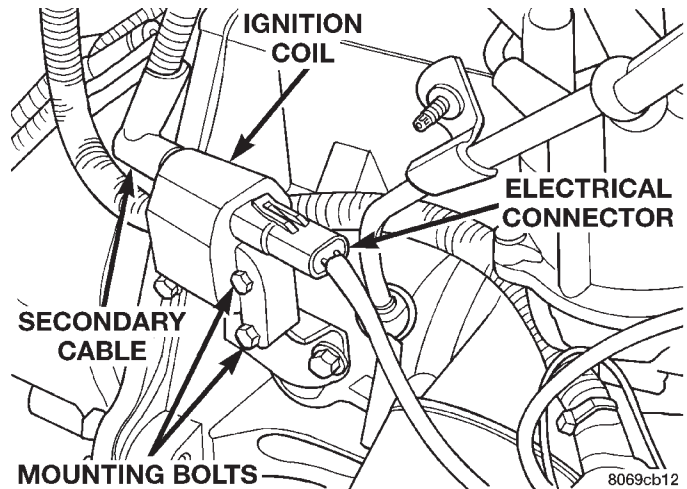
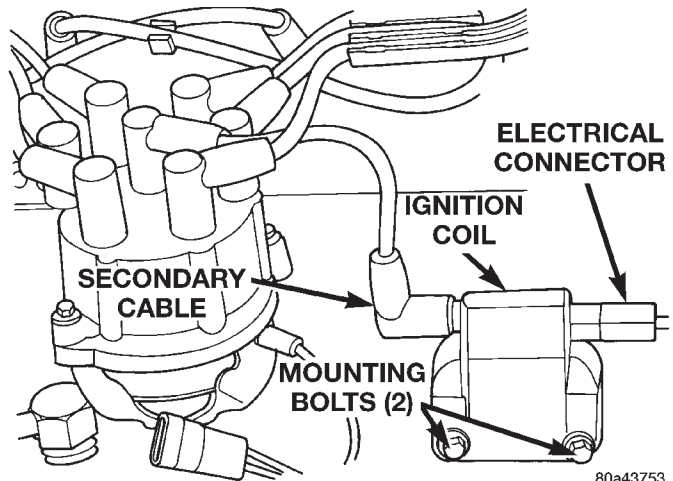
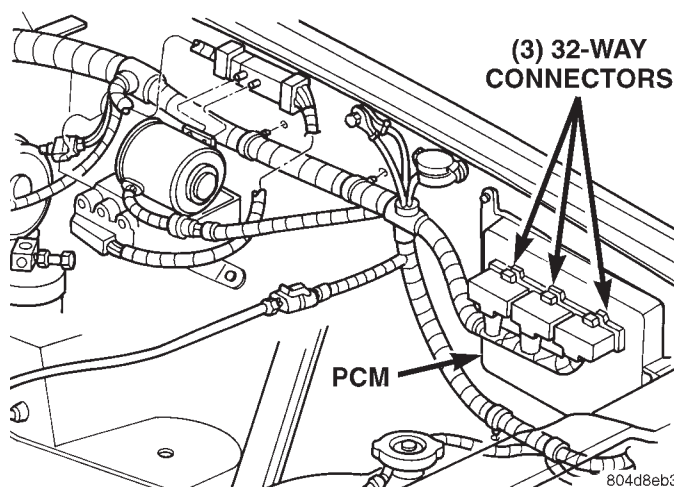

Fig. 8 Ignition Coil—2.5L Engine
Fig. 9 Ignition Coil—4.0L Engine
Fig. 10 PCM and Three 32-Way Connectors
The ignition coil (Fig. 8) or (Fig. 9) is designed to operate without an external ballast resistor.
(1) Unplug the ignition coil harness connector at the coil (Fig. 9).
(2) Connect a set of small jumper wires (18 gauge or smaller) between the disconnected harness terminals and the ignition coil terminals. To determine polarity at connector and coil, refer to the Wiring Diagrams section.
(3) Attach one lead of a voltmeter to the positive (12 volt) jumper wire. Attach the negative side of voltmeter to a good ground.
(4) Determine that sufficient battery voltage (12.4 volts) is present for the starting and ignition systems.
(5) Crank the engine for 5 seconds while monitoring the voltage at the coil positive terminal:
- If voltage remains at or near battery voltage during the entire 5 seconds, turn the key off. Remove the three 32-way connectors (Fig. 10) from the PCM. Check 32-way connectors for any spread terminals or corrosion.
(6) Remove test lead from the coil positive terminal. Connect an 18 gauge jumper wire between the